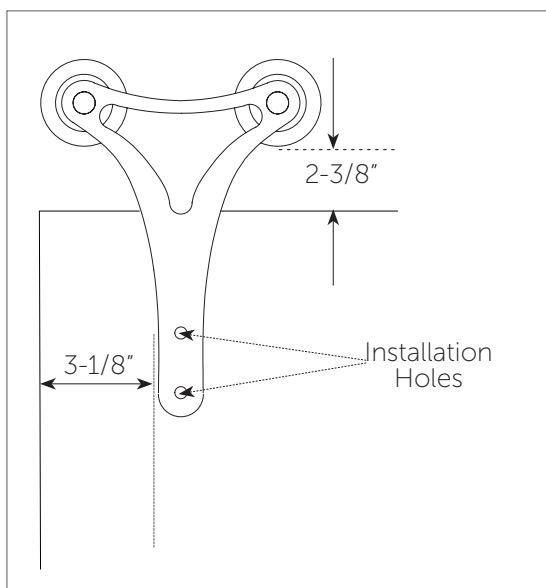

Figure 2
3. Adjust the placement of the hanger for a 2-3/8" gap between the top of the door and the bottom edge of the wheel. Ensure the base of the hanger resting on the door is 3-1/8" from the edge of the door. (Figure 2).
4. Mark the center of each installation hole with a pencil. (Figure 2).